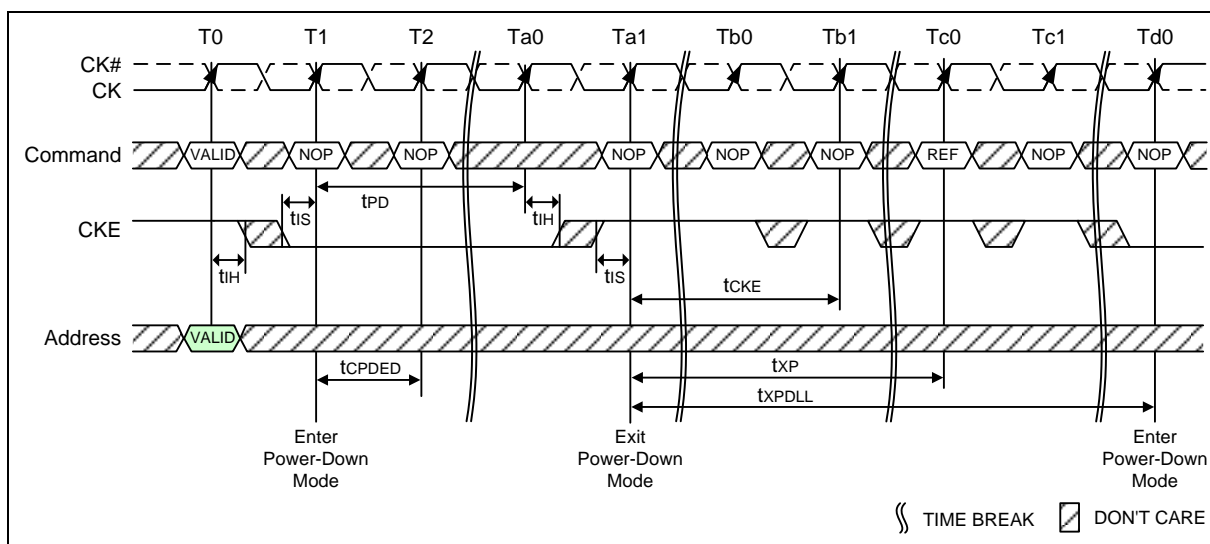

Figure 70 – Power-Down Entry/Exit Clarifications - Case 2
2) t_{XPDLL} must be satisfied (referenced to the registration of PD Exit) before the next power-down can be entered. A detailed example of Case 2 is shown in Figure 70.